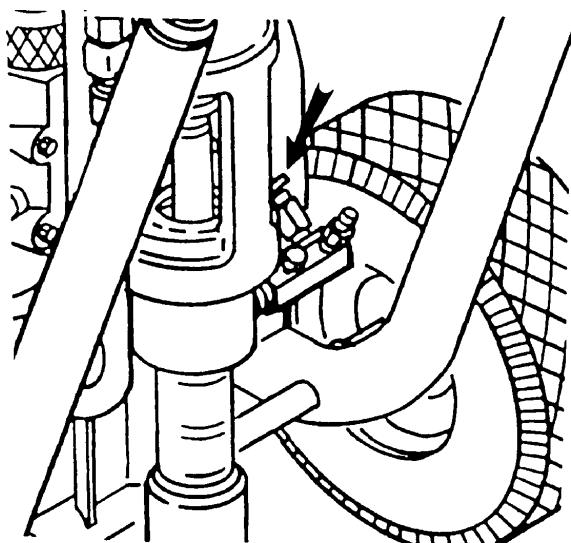

FIGURE 4
- D. Close Pressure Bleed Valve by turning it clockwise. This allows the system to pressurize. Hold gun trigger open, without spray tip attached, until the fluid flows smoothly. See Figure 4.